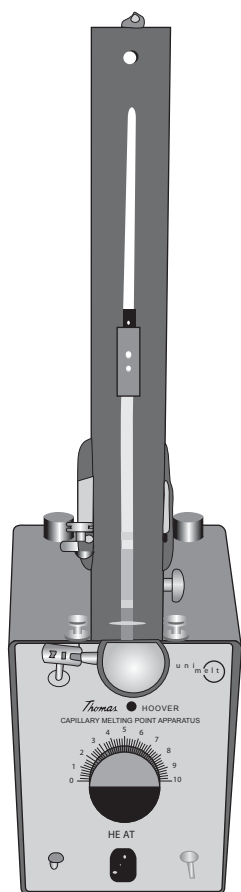

Figure 13.5
- You should position yourself so that you can follow the rise of the mercury in the thermometer as well as observe the solid in the capillary tube. Record the temperature when the solid begins to liquefy (2) (the solid will appear to shrink). Record the temperature when the solid is completely a liquid (3). Express these readings as a melting point range (4).
- Identify the solid by comparing the melting point with those listed in Table 13.1 for different solids (5).
b. A commercial melting-point apparatus, such as the Thomas-Hoover Unimelt® (Figure 13.5), will be demonstrated by your instructor and may be substituted for the Thiele tube, as determined by your instructor.